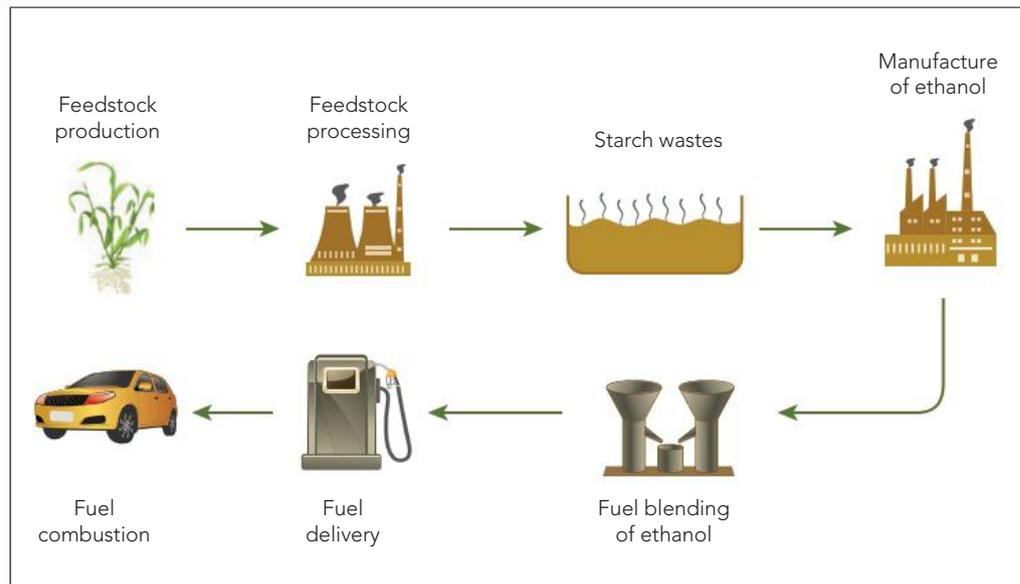

Figure 31.2 Bioethanol manufacture
- **Bioethanol.** Bioethanol is a solvent in cosmetics (e.g. perfumes and deodorants), food colourings and flavourings, antiseptics and some household cleaning agents. It is used in fuel blends for petrol engines (e.g. e10 is a blend of 10% ethanol and 90% petrol). Figure 31.2 illustrates the production of bioethanol.